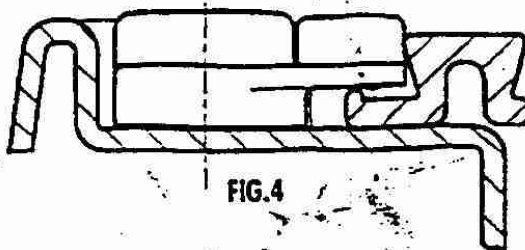

FIG.4
4. The flyscreen is held by placing its mesh face towards the trim and rotating the locks 45 degrees to hold, see fig.4.